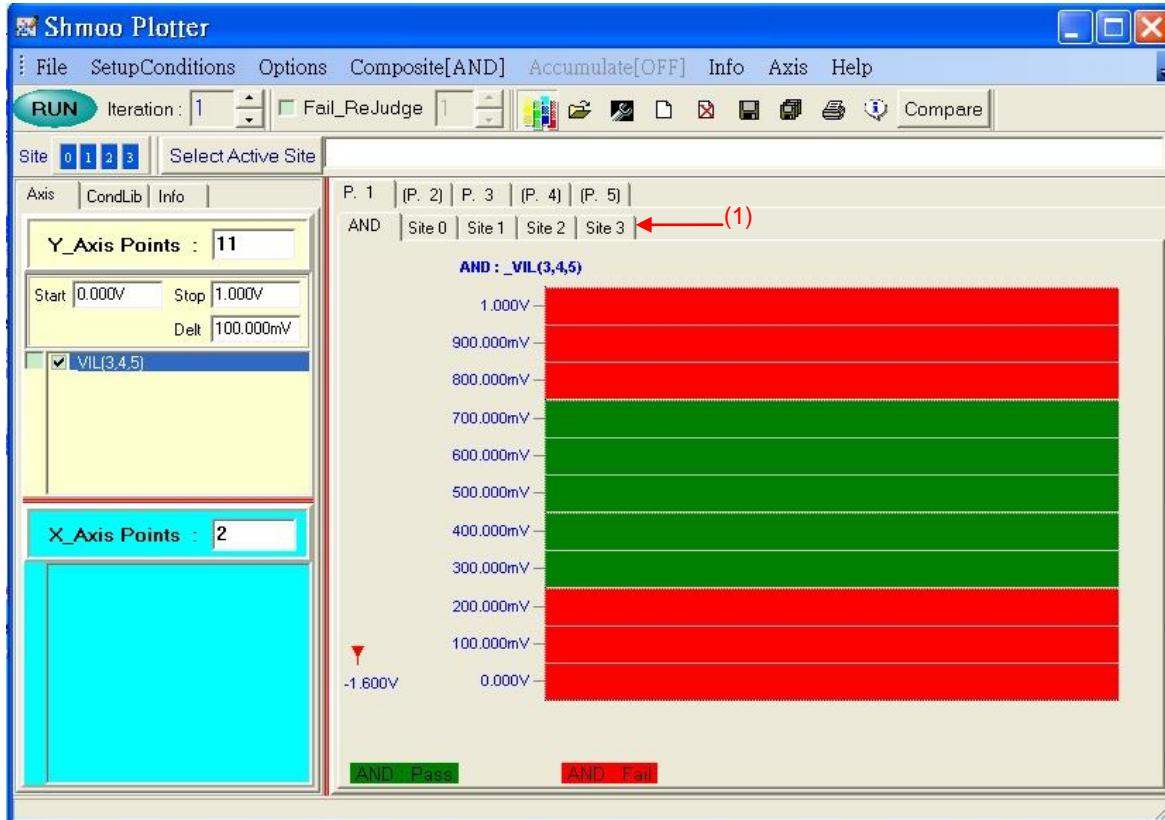

Figure 11-2 Page Tab of Shmoo Plot
Initially it has only one page “P.1”. When the “Create new page” button pressed, “P.2”, “P.3”, .. will be added. If the saved plot file is reloaded, system will create new pages for it. The page tab will be embraced with “[]”. As Figure 11-2, [P.2], [P.4] and [P.5] are reloaded pages.
If the test plan is a multi site case, there will be site tabs displayed under the Page tab (Figure 11-2 (1)).